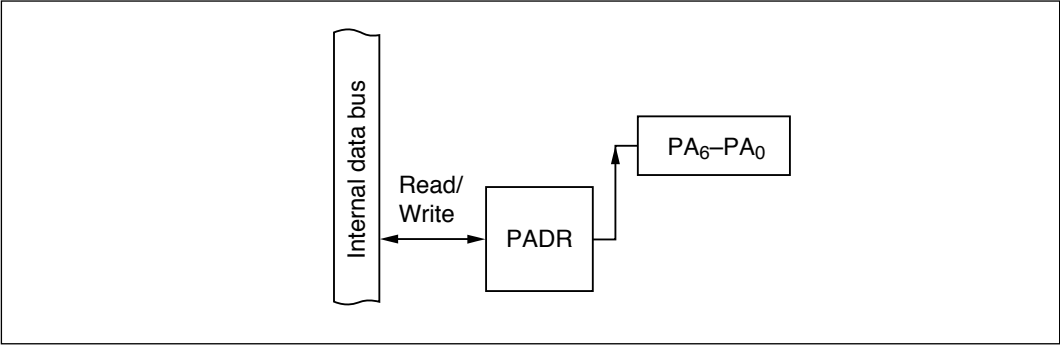

Figure 9-62 Output Port (Modes 1 to 7)
(2) **Output Port (PA₆ to PA₄ in Modes 1 to 7; PA₃ to PA₀ in Modes 1, 2, 6, and 7):** Figure 9-62 shows a block diagram illustrating the general-purpose output function. Table 9-45 indicates register read/write data. The value written in the port A data register (PADR) is output at the pin. When read, PADR returns the value written in PADR.